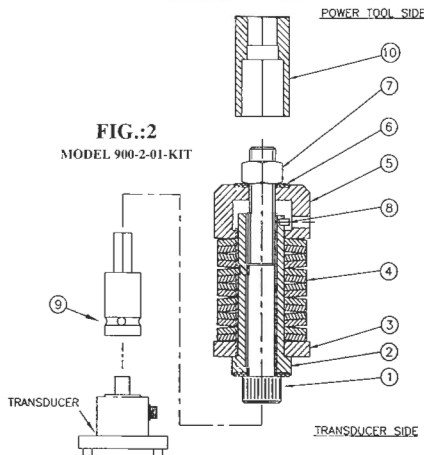

FIG.:2
6. For safety reasons and better performance, the Joint Rate Simulator should be used in vertical plane as shown on Fig. 2 & 3.